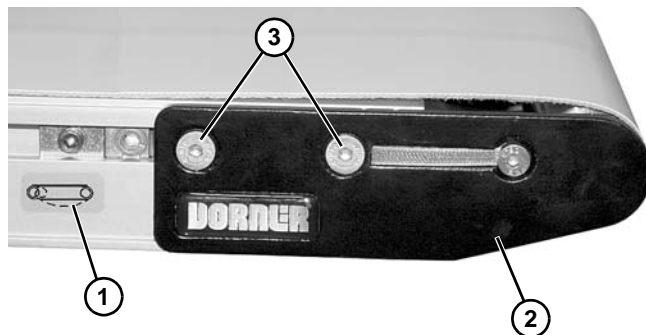

Figure 6
2. On tension end of the conveyor, identified with  a label (**Figure 6, item 1**), push in head plate assembly (**Figure 6, item 2**): On both sides of conveyor, loosen fastening screws (**Figure 6, item 3**) and push head plate assembly inward.